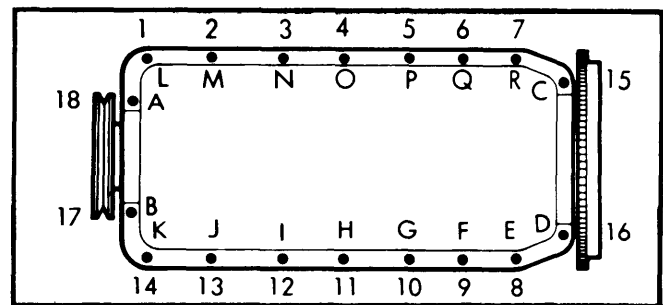

Fig. 2 Oil Pan Bolt Tightening Sequence
**Installation** — Use new gaskets with sealer on engine block side and place on block. Place pan in position and tighten bolts evenly to specifications. Follow *Alphabetical* and then *Numerical* sequence shown in Fig. 2. Continue installation in reverse order of removal and replenish crankcase oil supply.